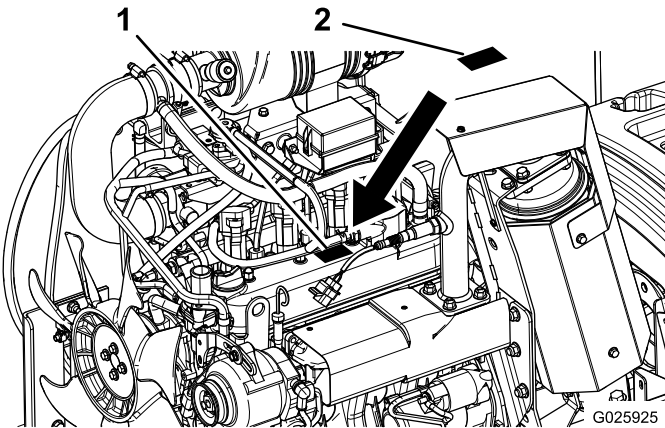

Figure 15
2. Place the Kubota engine emissions decal over the existing decal, located on the valve cover of the engine (Figure 15).